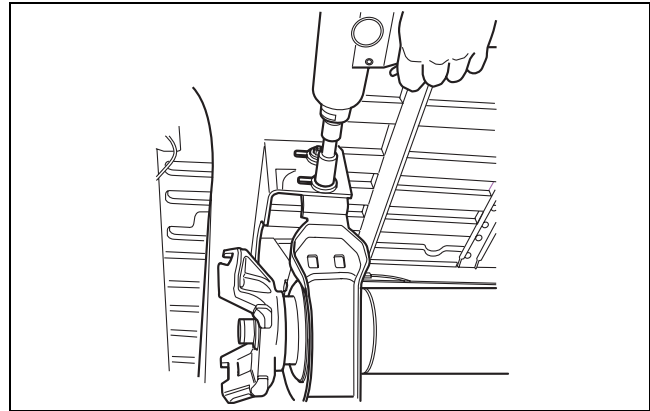

Figure 9.7
3. Remove the center bearing bracket bolts. Figure 9.7. Allow the coupling shaft to rest on the support strap.